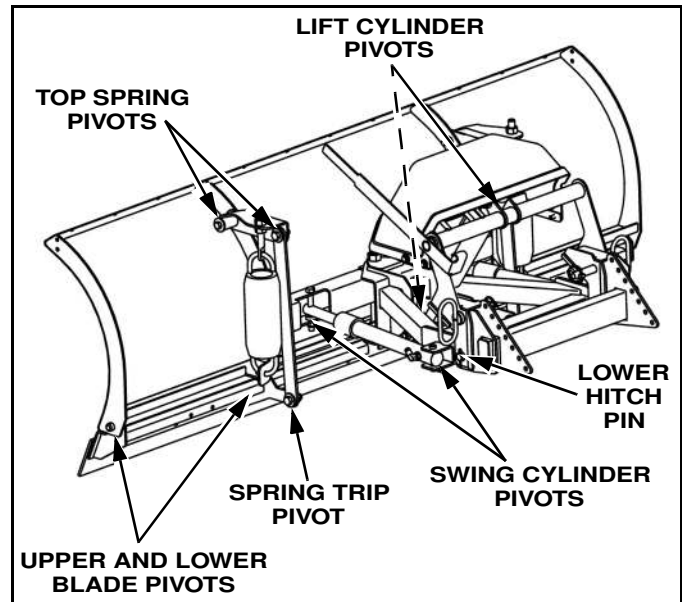

Figure 2-1
3. Apply a small amount of light oil to: Lower hitch pins, pivot pins between the upper and lower blade frame and pivot pins at lift and swing cylinders. Also lubricate trip spring pivot points. (See Figure 2-1).
4. Apply a small amount of light oil to: lower hitch pins, pivot pins between the upper and lower blade frame and pivot pins at lift and swing cylinders. Also lubricate trip spring mount pivots. (See Figure 2-1).